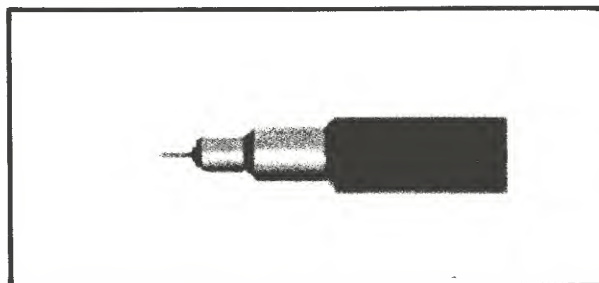

Figure 1. Model 10217A Blocking Capacitor
2. The HP Model 10217A Blocking Capacitor is a probing accessory for the HP Model 1425A/1410A oscilloscope sampling system. The Model 10217A is illustrated in Figure 1. The blocking capacitor is used to isolate the sampling probe from dc potentials present in the test circuit. Specifications for the Model 10217A are listed in Table 1.